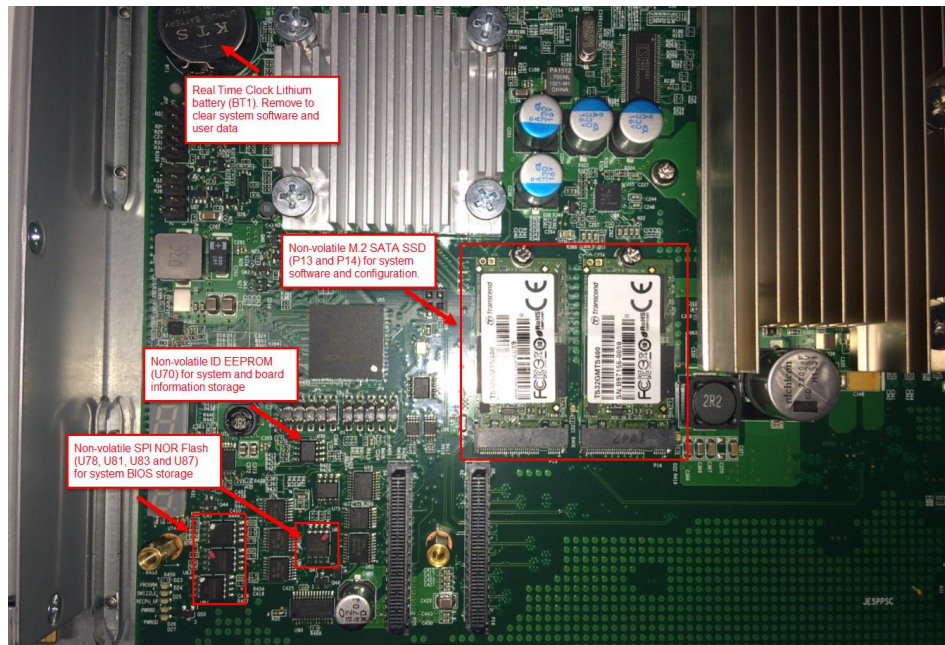

Figure 3-6: Locate NV storage devices on CPU board
8. Locate NV storage devices on CPU board (Figure 3-6).